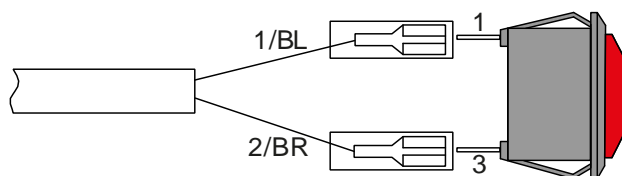

Figure 26: Indicator light connection
- Mount the **PALFINGER** indicator light in the driver's cab. This indicates when the tail lift is not in the driving position (part no. 2067902, design of the hole as for the control unit, connection in accordance with the wiring diagram, see also Figure 26).